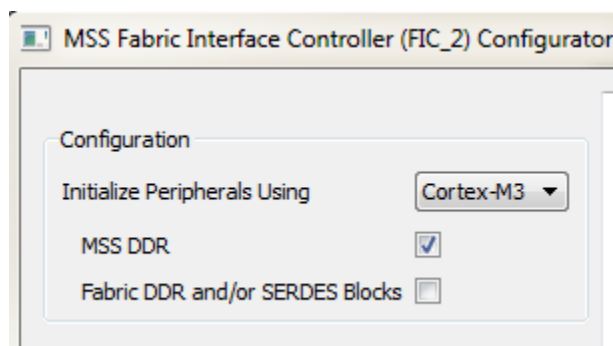

Figure 41. MSS FIC_2 configurator
1. Open the FIC_2 configurator dialog from the MSS configurator (Figure 41)